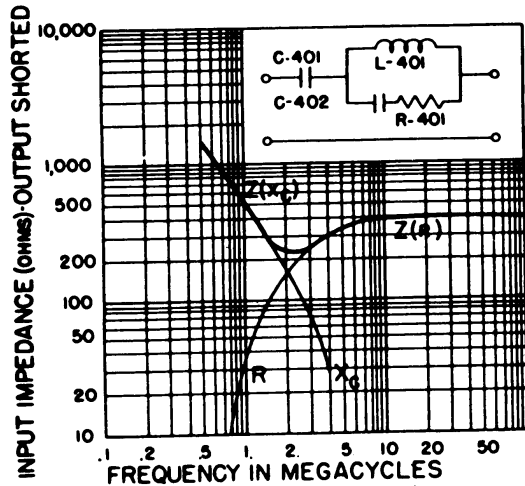

Figure 4-4. Schematic Diagram of the Antenna Simulator SM-35/URM-25 with Input Impedance-Frequency Curve
(See figure 4-4).
c. It can be seen from figure 4-4 that the minimum impedance of the antenna simulator will be approximately 220 ohms at 2 megacycles. This impedance becomes extremely high at lower frequencies and approaches 400 ohms at higher frequencies. In using the meter (M-101) of the signal generator it should be realized that a 20 percent maximum error may be introduced at 2 megacycles. If greater meter accuracy is required when using the antenna simulator, the actual impedance of this unit should be calculated from figure 4-4 at the frequency selected.
Figure 4-4 in this section is the same as figure 2-16 in section 2 but has been repeated here to assist the operator in applying the procedures herein outlined for use of the antenna simulator.